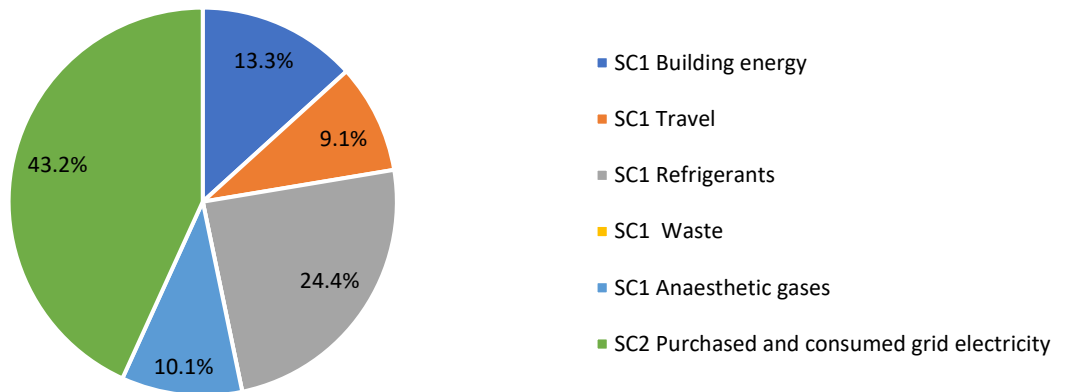

Figure 4 Emissions by Source for Scope 1 and 2. Excluding Supply Chain
- Emissions by Source for Scope 1 and 2 emissions (Fig 4)